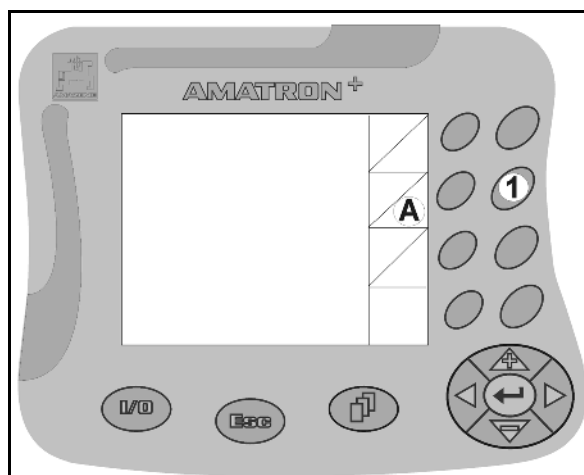

Fig. 3
Example: (Fig. 3/6)
- Figure 3
The operator uses the key (Fig. 3/1) assigned to the function field to perform function **A**.